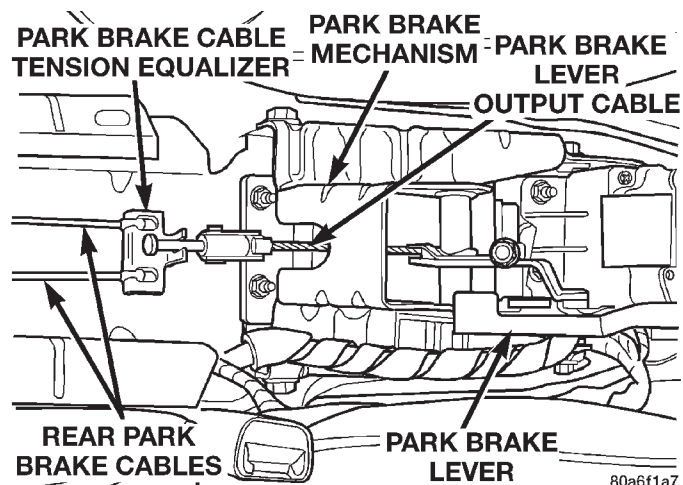

Fig. 131 Park Brake Cable Tension Equalizer
(4) Install a **NEW** park brake cable tension equalizer on the park brake lever output cable and rear park brake cables (Fig. 131).